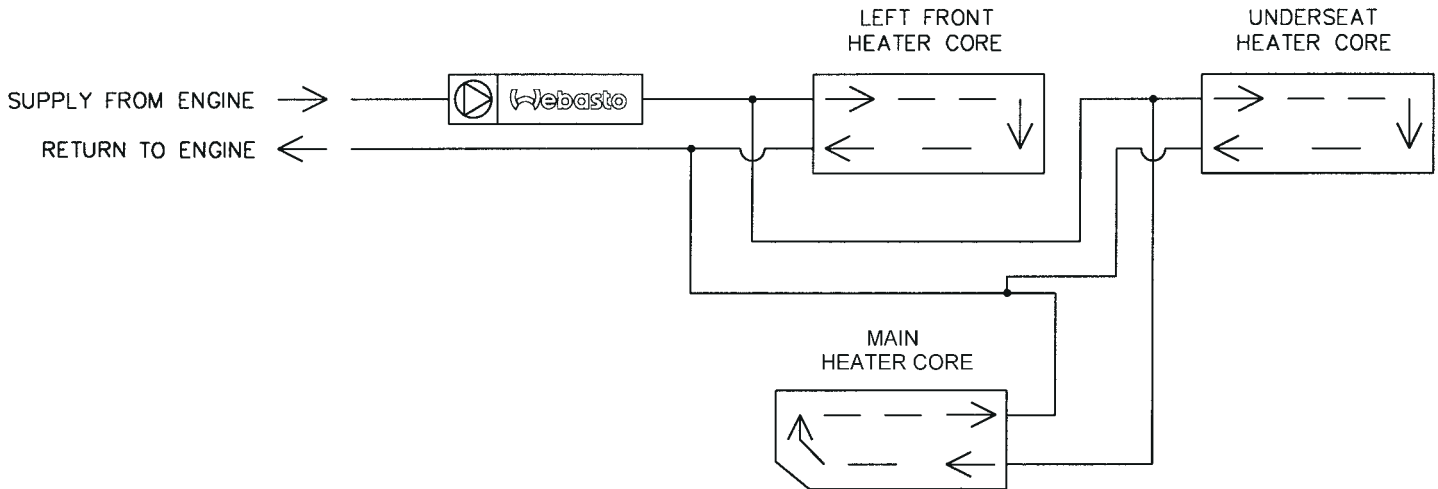

Fig. 402: Parallel Plumbing Circuit (Shown with heater installed)
**B: Heater Cores arranged in Parallel (fig. 402)**